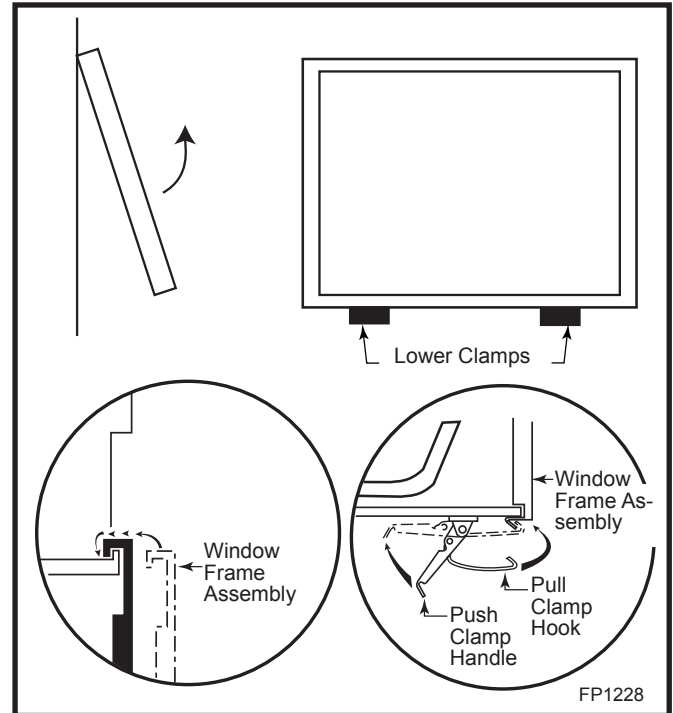

Fig. 36 Window frame assembly removal.
5. Release the two clamps securing the lower edge of the frame by pulling down on the handles. (Fig. 36)